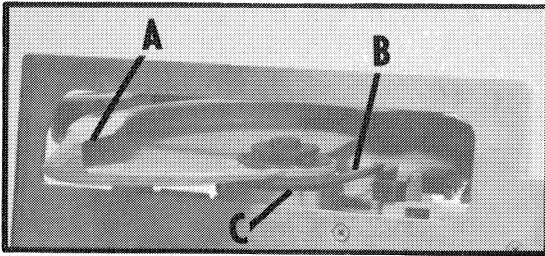

Fig.6
The telescoping guard (A) Fig. 6, is a safety device important to your protection. Everytime you use the saw, see that the telescoping guard rotates freely and returns quickly and completely to its closed position. Frequently check the retracting spring (B) Fig. 6, to see that it is functional and free of foreign matter. At least once a month or when the guard is not operating properly, remove any accumulated sawdust, pitch, etc. from the area around the hub (C) of the telescoping guard, and add a few drops of light machine oil at each end of the hub. NEVER block or wedge the telescoping guard in the open position.